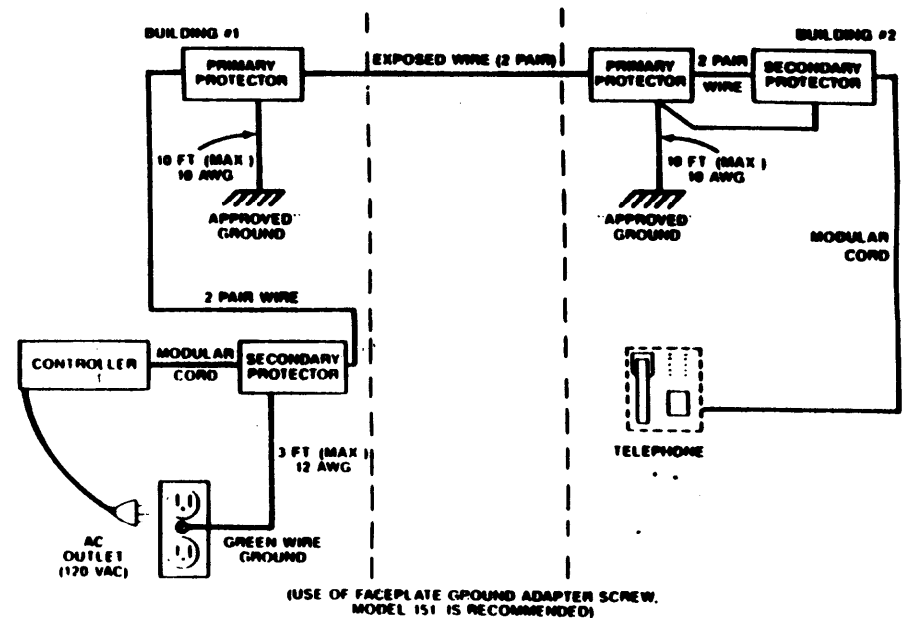

Figure 1
- These installation instructions cover the description and installation of the Model 371 Protector Assembly. The Model 371 is designed to protect both the control unit and the telephone sets of the **SPIRIT™** Communications System from foreign voltages caused by lightning, power contact, or power induction. Two (2) Model 371 Protector Assemblies are installed whenever the station is outside of the building but less than 1,000 feet from the **SPIRIT™** system control unit (Figure 1). The installation must follow requirements as outlined in Article 800-2 of the *National Electric Code Handbook*, and AT&T Standard Practice #462-005-100. Other AT&T Practices that describe wiring for a non-fused protector are identified in Section 6. (Section 6 also identifies how to order all of these documents.)